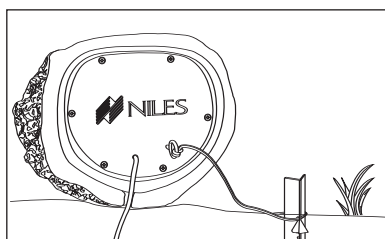

Figure 13 Security Stake Driven into Ground
- Pick a spot in the ground which the loudspeaker will cover and drive the security stake all the way into the ground until the cable holder is completely under the surface of the ground, as shown in **Figure 13**.